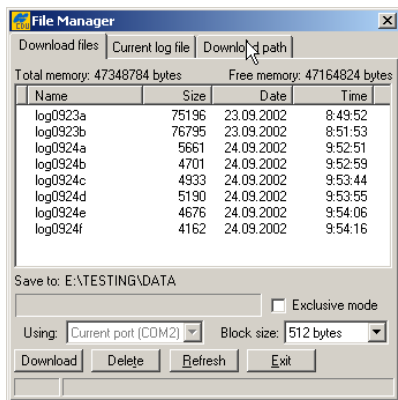

Figure 5-10. Find Files to Download
3. Click **File ► File Manager**, then click the **Download path** tab on the **File Manager** dialog box (Figure 5-10).